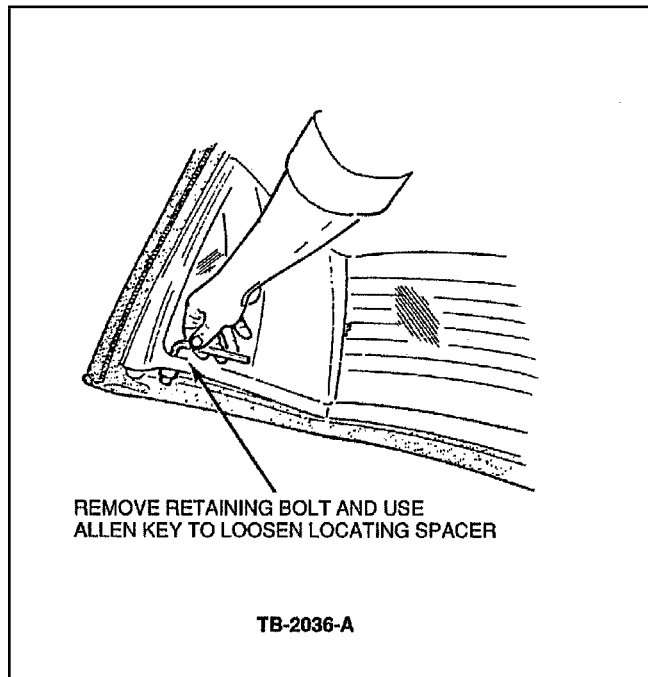

Figure 7 - Article 91-20-2
9. Remove the left and right hand side hardtop retaining bolts from the hardtop and, using an 8mm allen key, loosen the two locating spacers, Figure 7.